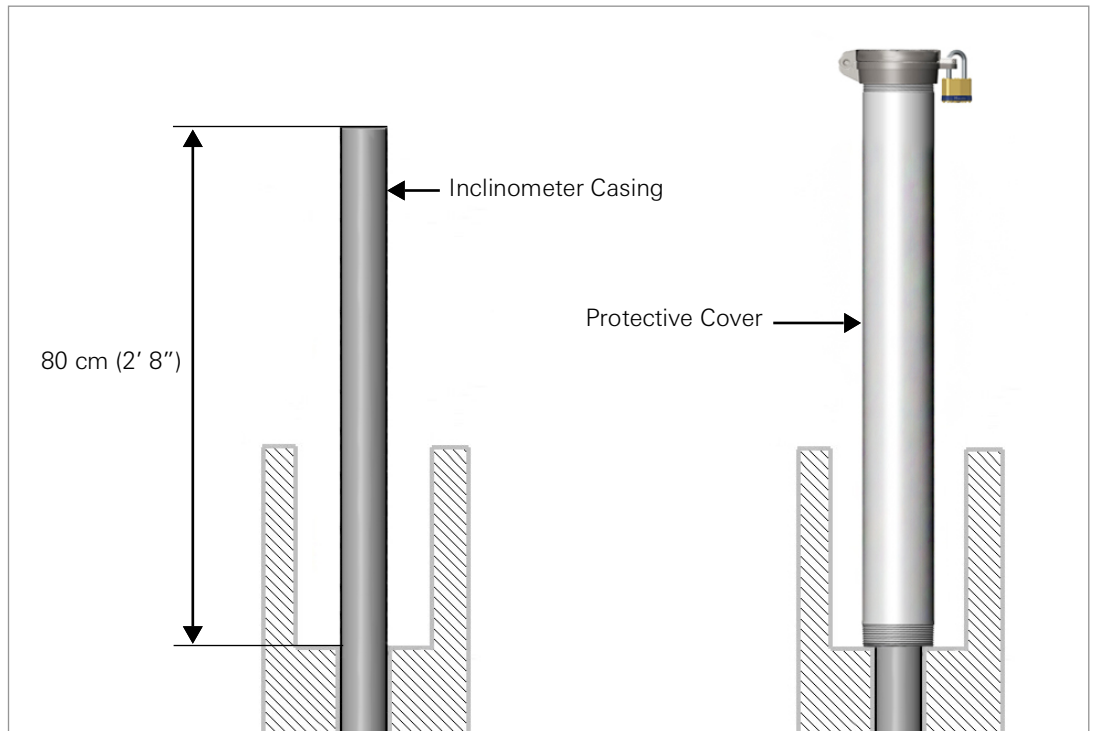

FIGURE 17: *Trimmed Casing (Left) and Installed Protective Cover (Right)*
2. Cut the casing off 80 cm (2' 8") from the bottom of the overcore (Figure 17).